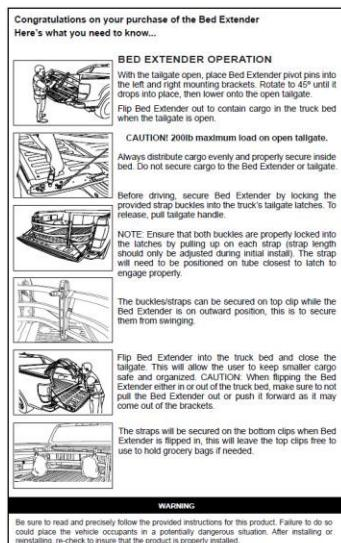

Fig. 3-1
- (c) Place care card into glove box (Fig 3-1).